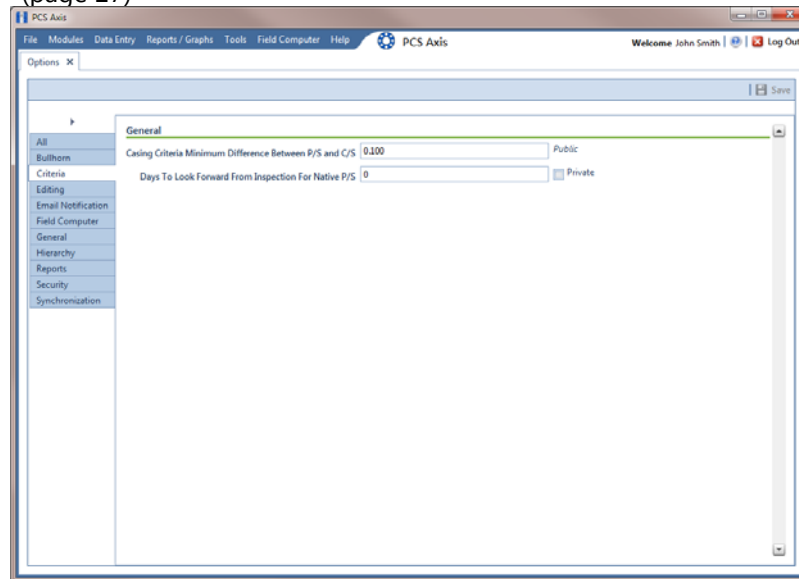

Figure 3-7. Criteria Options
- 1 If the *Options* window is not open, click **Tools** > **Options** to open the window. Then click the **Criteria** tab to open the *Criteria* options page (Figure 3-7).